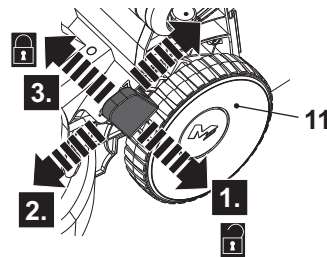

Fig. 13
1. Pull the lever (10) towards the rear wheel (11) (Fig. 13, step 1).
2. Move forward or backward to adjust the cutting height (Fig. 13, step 2).
3. Release the lever (10) and ensure it engaged in the slot properly (Fig. 13, step 3).